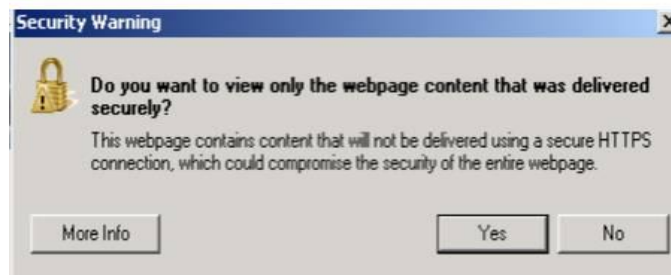

Fig. 1 Pop-up Security Message
3. If a security message appears “Do you want to view only the webpage content that was delivered securely?” see (Fig. 1). Press **No** to continue.